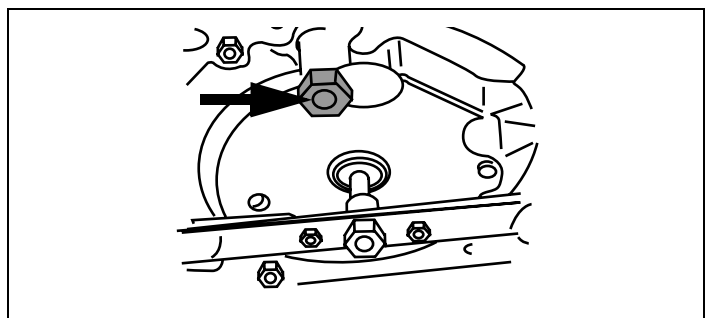

Figure 33. Oil Drain Plug
3. Be sure you find the correct oil drain plug location, if present (see equipment manufacturer's instructions). See Figure 33.
4. Clean area around oil drain plug. See Figure 33.